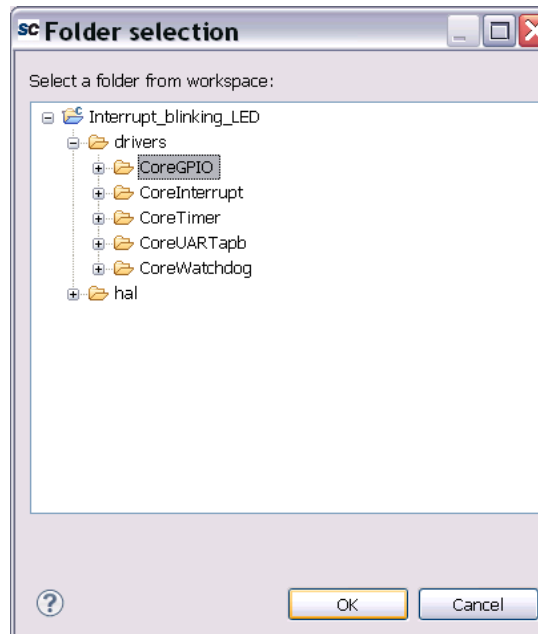

Figure 37 Select CoreGPIO Driver
4. Select CoreGPIO and click **OK**, as shown in Figure 37.